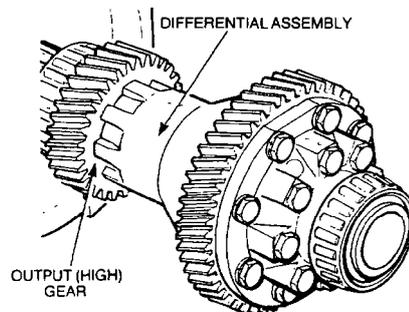

Figure 187 Removing the Differential Assembly
- t. Remove the differential assembly complete with the output (high) gear (Figure 187).